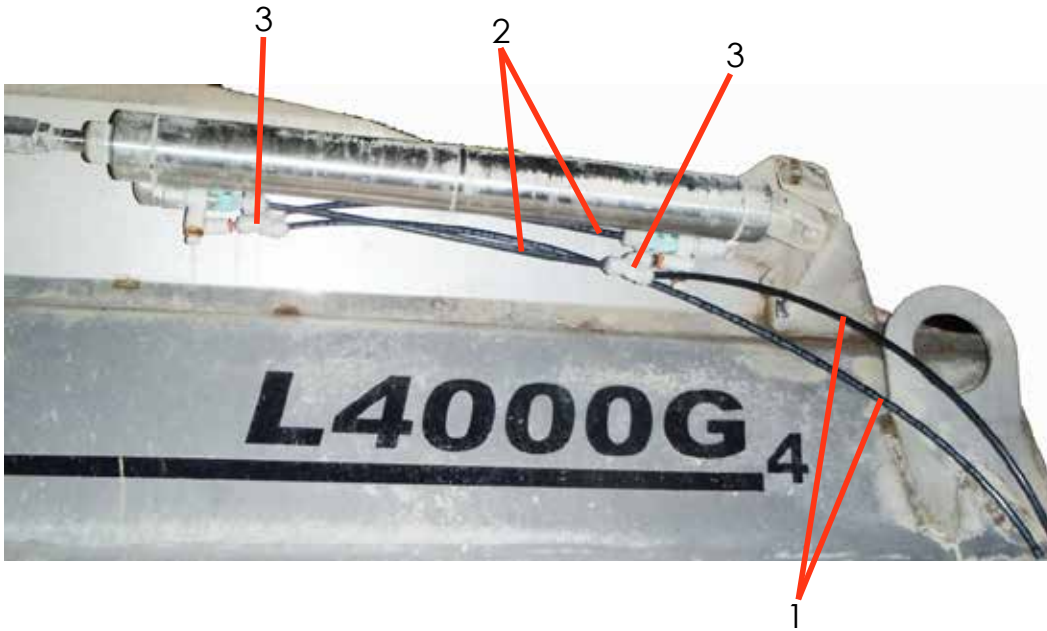
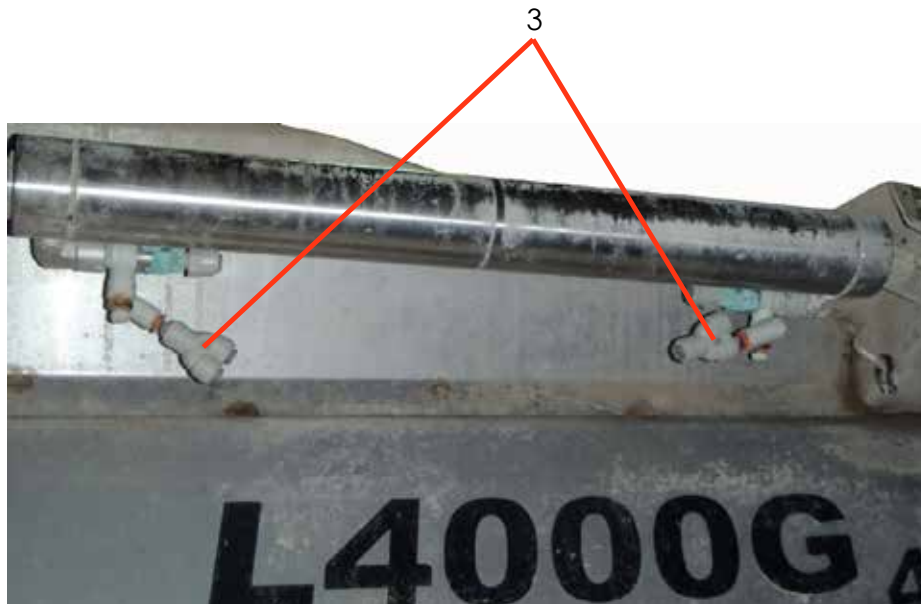

Figure 3A
Figure 3B
3. Figure 3A - Carefully clean area around all 4 air tubes (1 & 2). Unhook air supply tubes to cylinder (1) and air tubes between cylinder fittings (2) (as shown in Figure 3B).